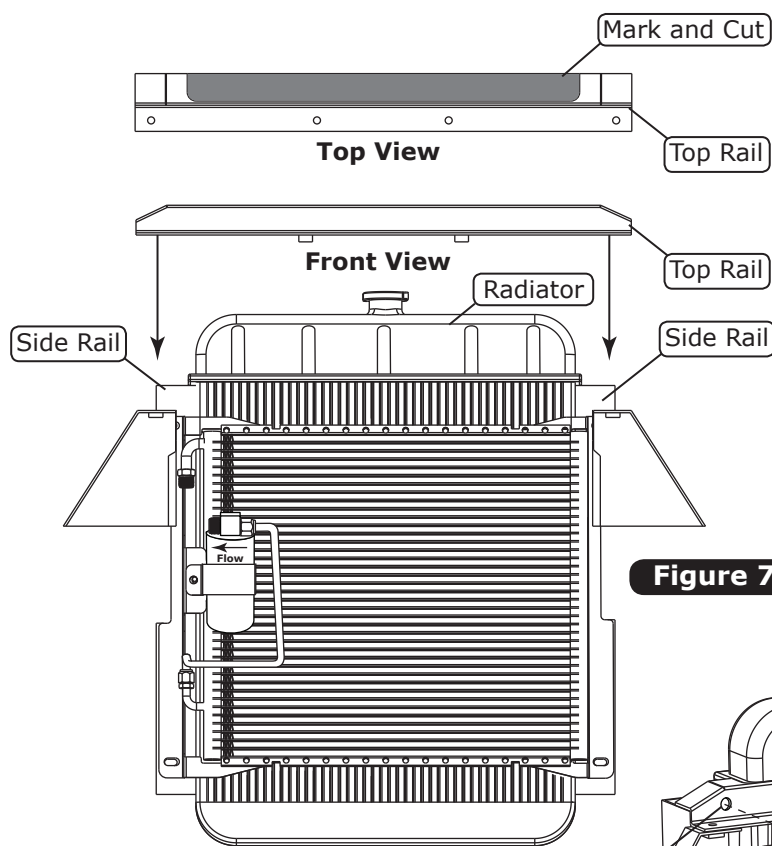

Figure 7
3. Cut the top rail as shown in Figure 7, below. **NOTE: Allow for clearance so the top rail and radiator do not touch as shown in Figure 7a, below.**